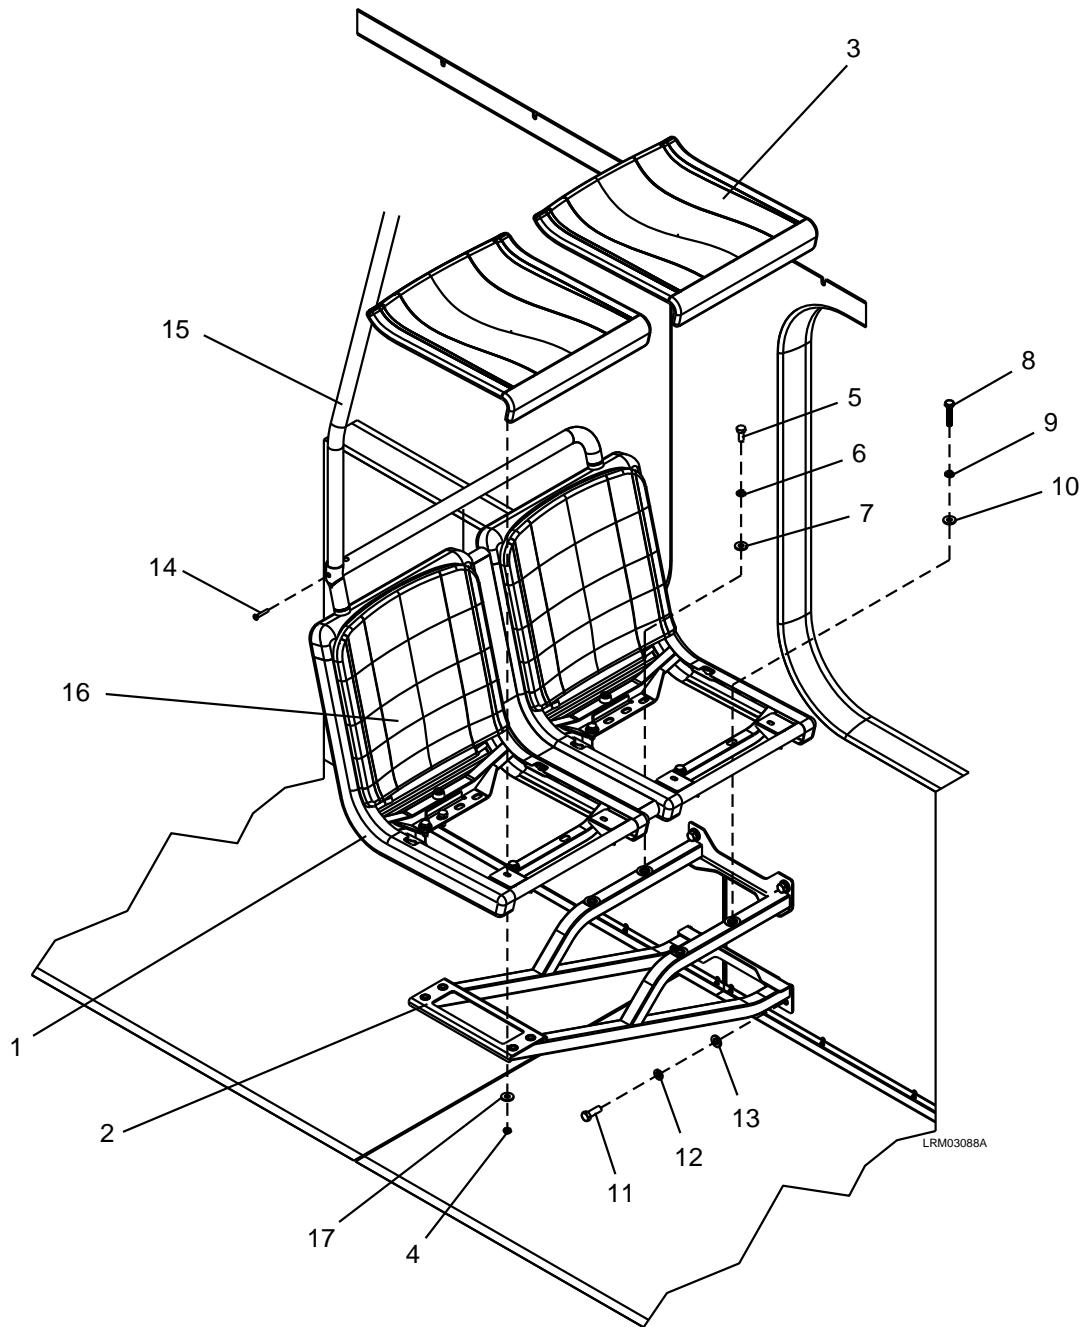

Figure 7-93: 2P LH & RH 36" Cantilever w/Grab Bar, w/Stanchion
1. Remove the attaching hardware (14) that mounts the seat assembly to the car grab pole (15). See Figure 7-93.
2. Remove four lock nuts (4) and flat washers (17) from the cushion assemblies (3).
3. Remove the cushion assemblies (3).